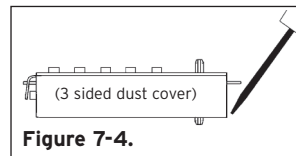

Figure 7-4.
- 7) Place a small screwdriver on the edge of the 3-sided dust cover and push down on the screwdriver (See Figure 7-4). The cover should pop loose. Once it does, pull the cover off of the combination chamber.